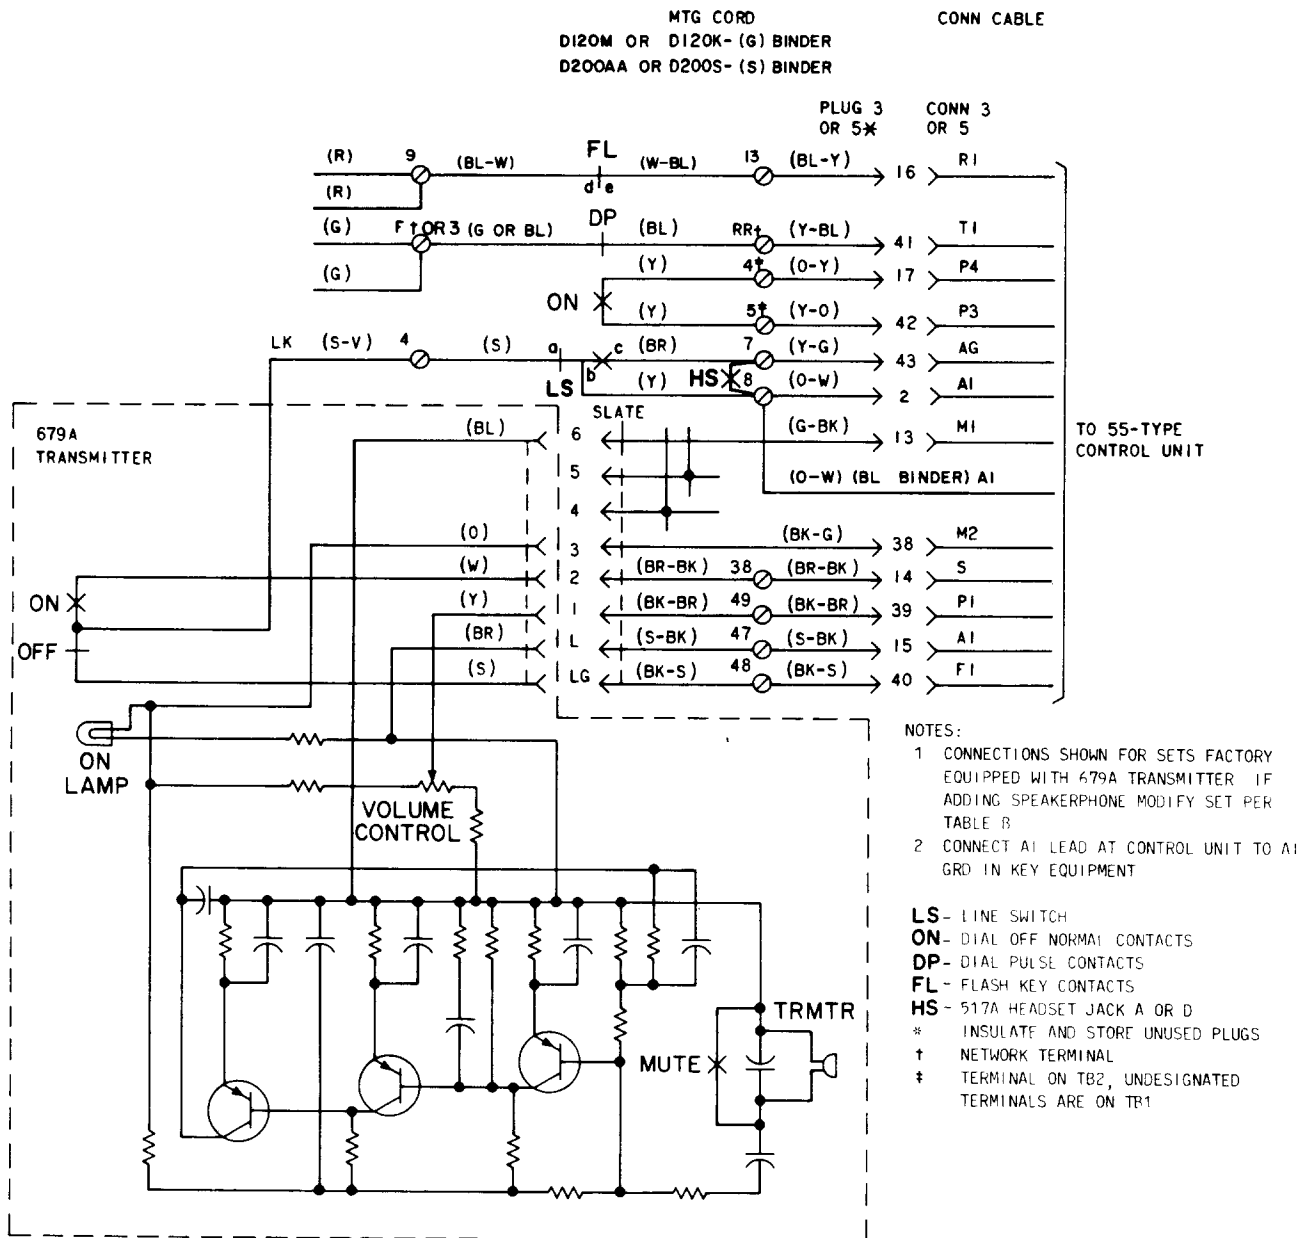

Fig. 5—Speakerphone Connections Using Internal 679 Transmitter
2.05 For 3-type (MD) speakerphone operation, a 679A (MD) transmitter may be installed in the 3rd (682-type) or 5th (683-type) module. Figure 5 and Table B show wiring of sets with speakerphone when transmitter is internal.
2. IN SETS EQUIPPED WITH 658A KEY, THE (G) CONTACT STRIP LEAD IS TERMINATED ON 17 AND (R) ON 18. IF A 658A KEY IS ADDED IN THE FIELD, LEADS MUST BE MOVED FROM PRECEDING MODULE CHAINING CIRCUIT TO TERMINALS 17 AND 18.
5. MODULE MAY BE EQUIPPED WITH A 679A TRANSMITTER FOR SPEAKERPHONE. SEE FIG. 5 AND TABLE B.
10. THESE CONTACT STRIPS ARE REQUIRED WHEN TELEPHONE SET IS EQUIPPED WITH THE D120K (MD) OR THE D200S (MD) MOUNTING CORD. THESE CONTACT STRIPS SHOULD NOT BE USED WHEN TELEPHONE SET IS EQUIPPED WITH THE D120M OR D200AA MOUNTING CORD OR WHEN TELEPHONE SET IS EQUIPPED WITH A MODIFIED D120K OR D200S MOUNTING CORD.
- 3 Connect the slate plug from the 3rd or 5th module to the 679A transmitter (Fig. 5). All other plugs in the module are insulated and stored.